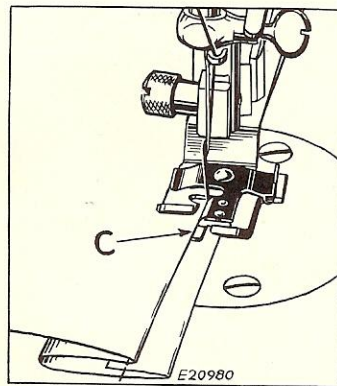

Fig. 4. Invisible Hem with Folded Edge Being Blind Stitched
- Place the hem under the attachment with the edge of the **third fold** against the guide C, as shown in Fig. 4. (Adjust the guide C according to the weight and texture of the material, as instructed on Page 3.) Then
lower the presser bar and commence sewing, carefully guiding the **fold** of the garment against the guide C so that the straight stitching will be made in the **first fold** of the hem and the tacking or sidewise stitches will be made in the fold of the garment, as shown in Fig. 4.